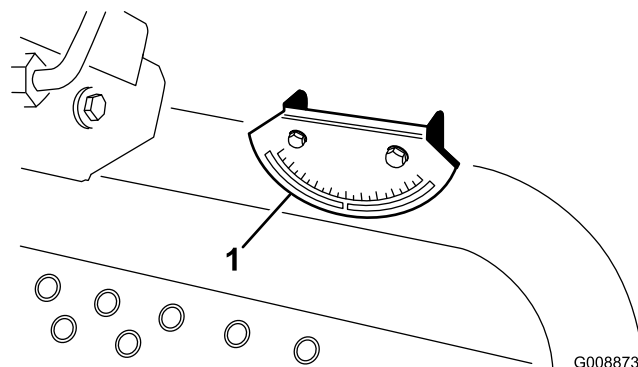

Figure 6
2. Verify that the machine is level by placing a hand held inclinometer (supplied with the machine) on the frame cross rail, by the fuel tank (Figure 6). The inclinometer should read zero degrees when viewed from the operator's position.